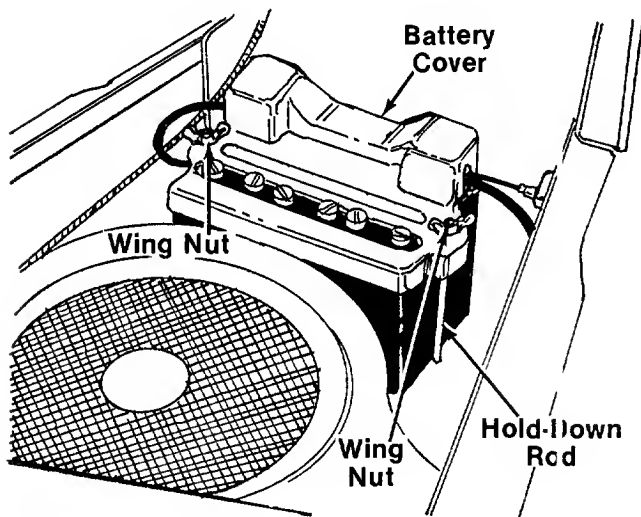

FIGURE 2.
4. Hook one hold-down rod into the hole in battery plate beside the battery. See figure 2. Place the battery cover in position over the hold-down rod. Secure with wing nut. Attach other hold-down rod to the other side of battery cover in the same manner.